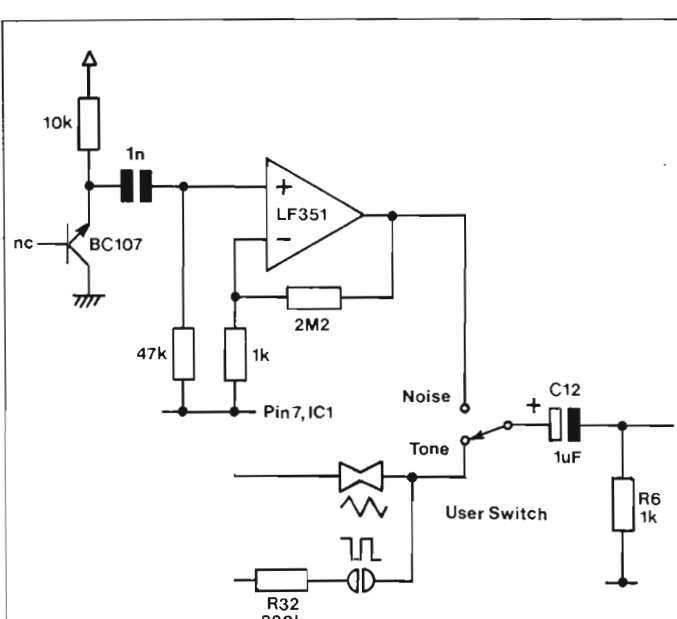

Figure 2. Noise generator modification.
**Mod 3.** To simulate many percussion sounds the sound source required is noise, not a pure tone. So the noise generator circuit shown in Figure 2 was added. The 'user' switch is used this time to select between